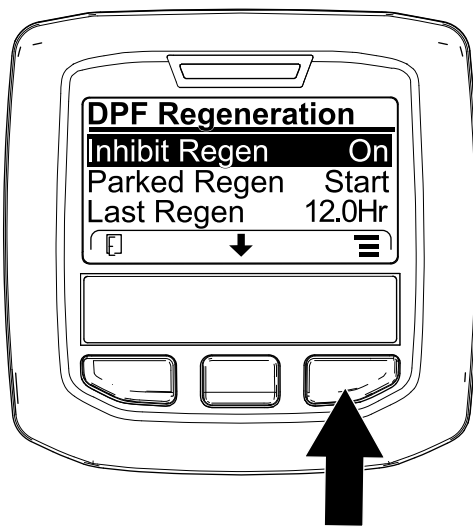
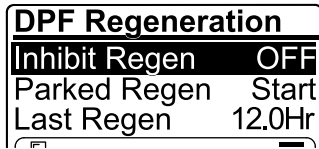

Figure 38
Figure 39
1. Access the DPF Regeneration menu, press the center button to scroll down to the INHIBIT REGEN option, and press the right button to select the Inhibit Regen entry (Figure 38).
2. Press the right button to change the inhibit regeneration setting from On to Off (Figure 38) or from Off to On (Figure 39).